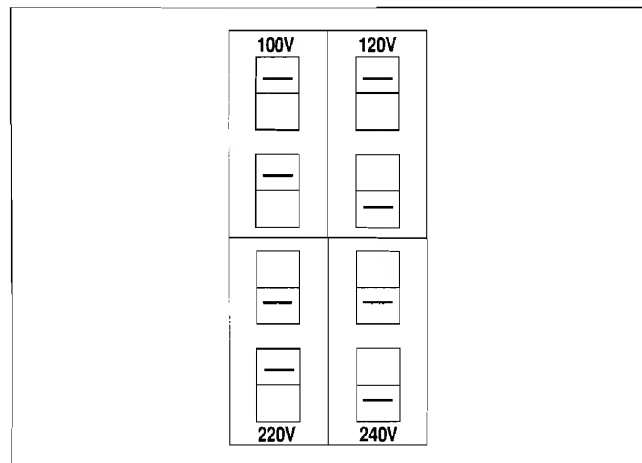

Figure 17. Line voltage conversion.
2. Reset the LINE VOLTAGE SELECT switches for the desired line voltage as shown on figure 17.